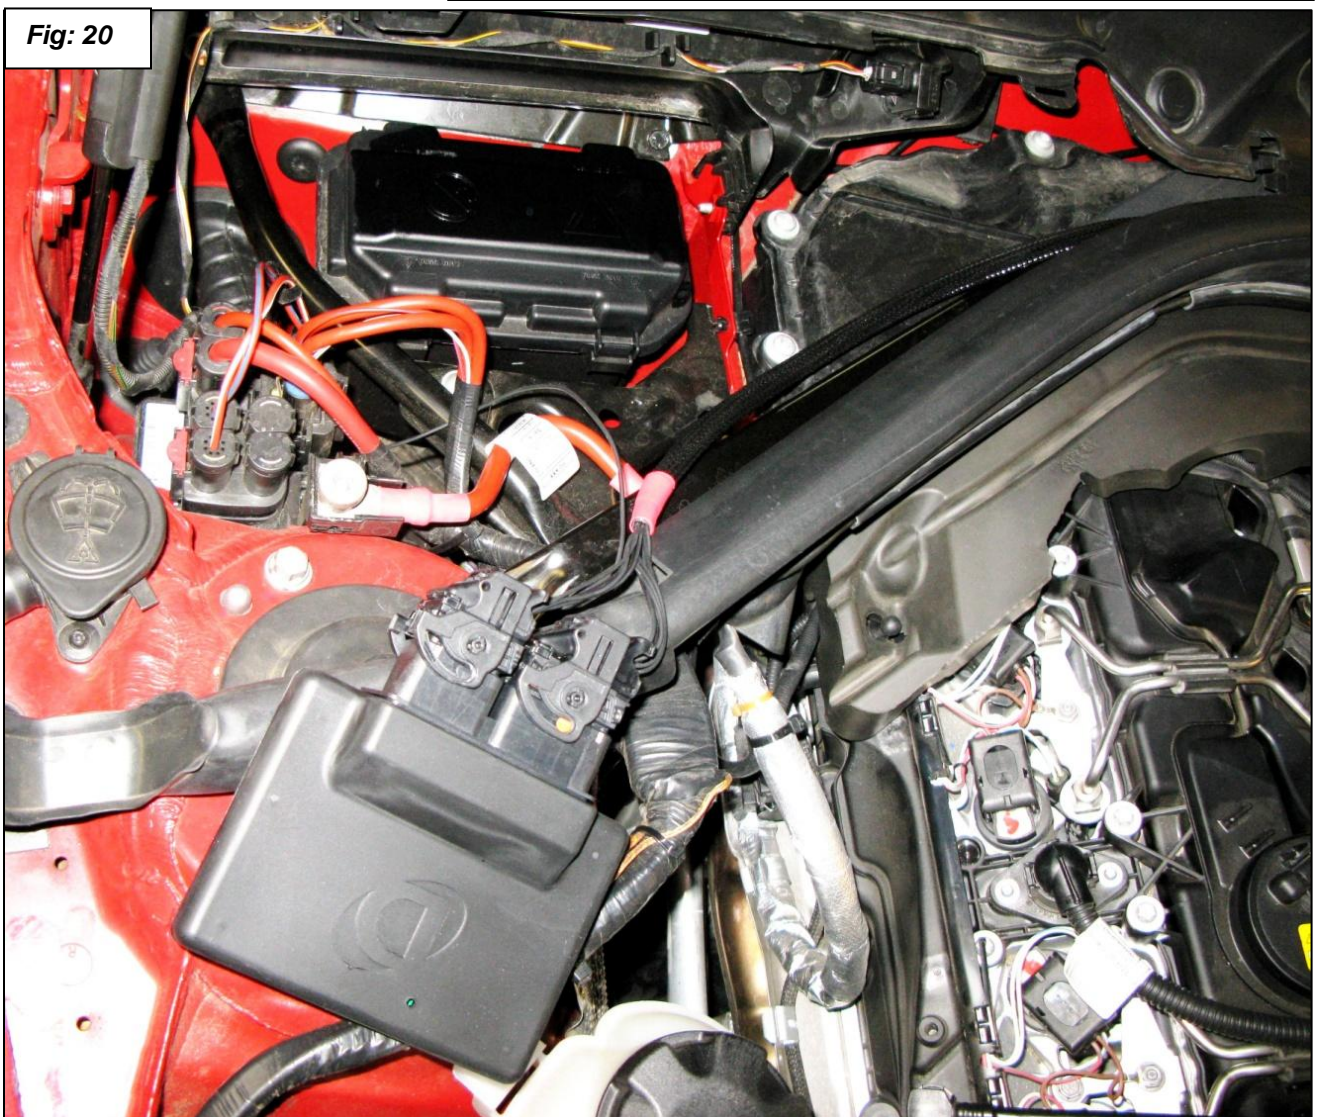

Fig: 18
16. Continue running the harness under the cowl seal as shown in figure 18.